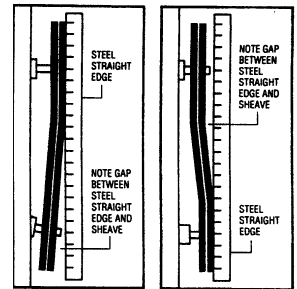

FIGURE 1      FIGURE 2
5. The two most common causes of misalignment are shown in the Figure 1 and Figure 2 to the right.